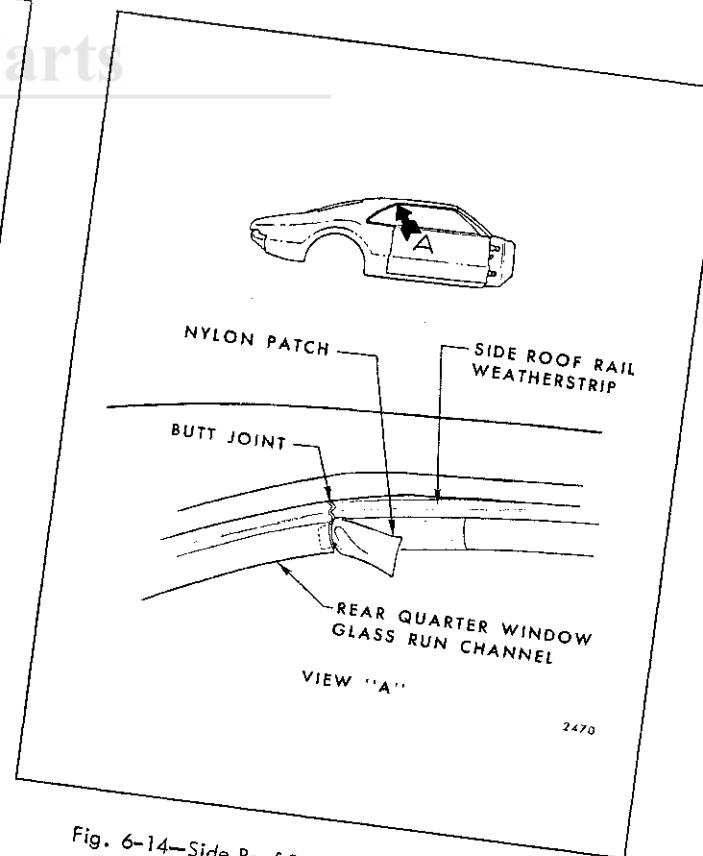

Fig. 6-14—Side Roof Rail Weatherstrip Repair -
1. With a sharp implement, sever the vulcanized joint and remove front section of side roof rail weatherstrip as outlined in the preceding procedure. The service weatherstrip is equipped with a nylon patch, half of which is cemented in place (See Fig. 6-14). The other half is to be cemented over the rear section of side roof rail weatherstrip (over quarter window) as directed in step #3.
3. With an approved neoprene cement, install remainder of nylon patch (See Fig. 6-14) to cover butt joint.